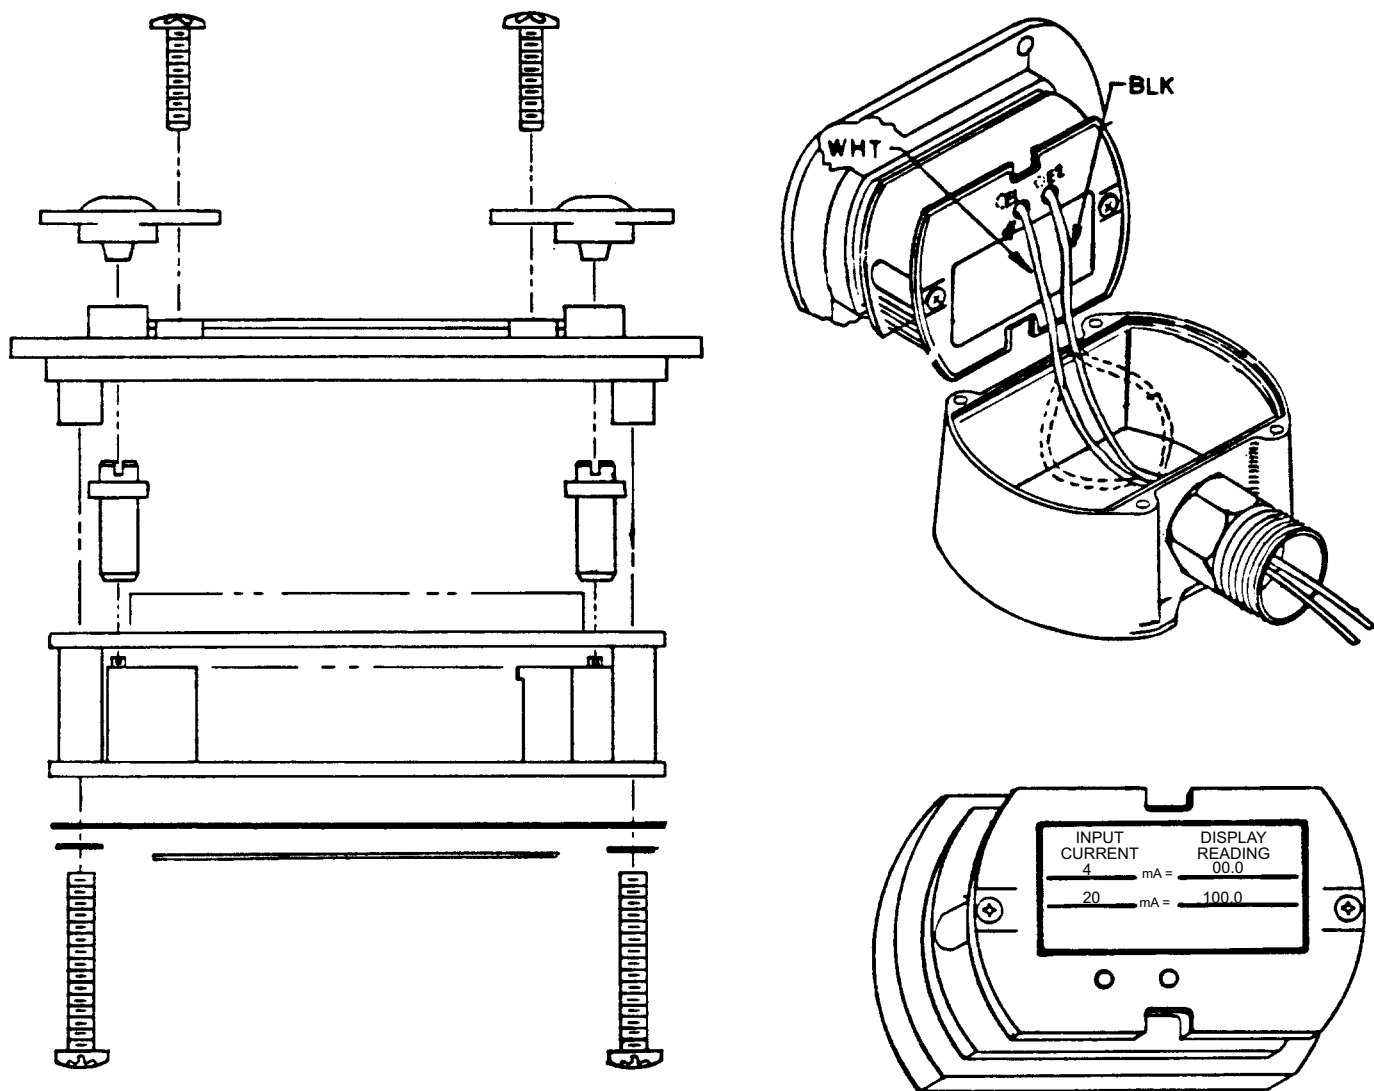

Figure 5-1. 508B-2 and 508B-3 Case Access
1. Remove 4 Phillips-head screws from the top of the 508B case, and lift main unit from case. (See **Figure 5-1**)